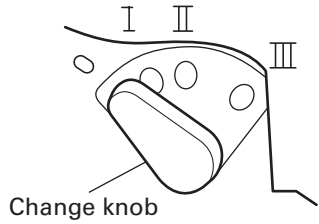

Fig. 7
- (1) This Jig Saw employs orbital operation which moves the blade back and forth, as well as up and down. Set the change knob shown in Fig. 7 to "0" to eliminate the orbital operation (the blade moves only up and down). The orbital operation can be selected in 4 steps from "0" to "III".